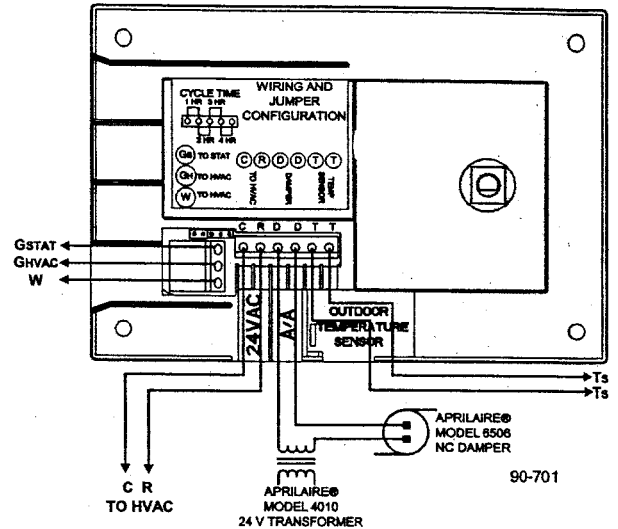

Figure 5. Wiring Diagram
- Strip wire 1/4 inches, and insert the wires from the sensor into the terminals labeled "Outdoor Temperature Sensor" on the Ventilation Controller. See Figure 5 for terminal locations.
- Route wire from the R, C, W, and GHVAC terminals on the Ventilation Controller to the corresponding terminals on the furnace/heat pump control board. See Figure 5 for the terminal locations.
- The Aprilaire Normally Closed Damper (Model 6506) needs to be installed into the Fresh Air Intake. It should be wired in series with a continually energized 24 VAC transformer Model 4010 and connected to the terminals labeled "A/A" of the Ventilation Controller. (See Figure 5.)